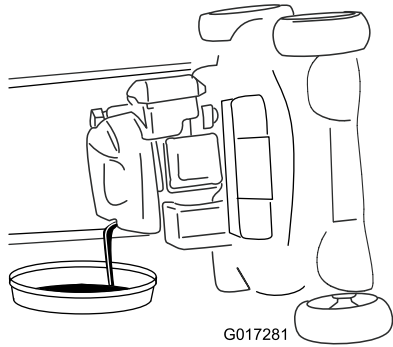

Figure 33
- Tip the machine onto its side (so that the air filter is up) to drain the used oil from the oil-fill tube (Figure 33).